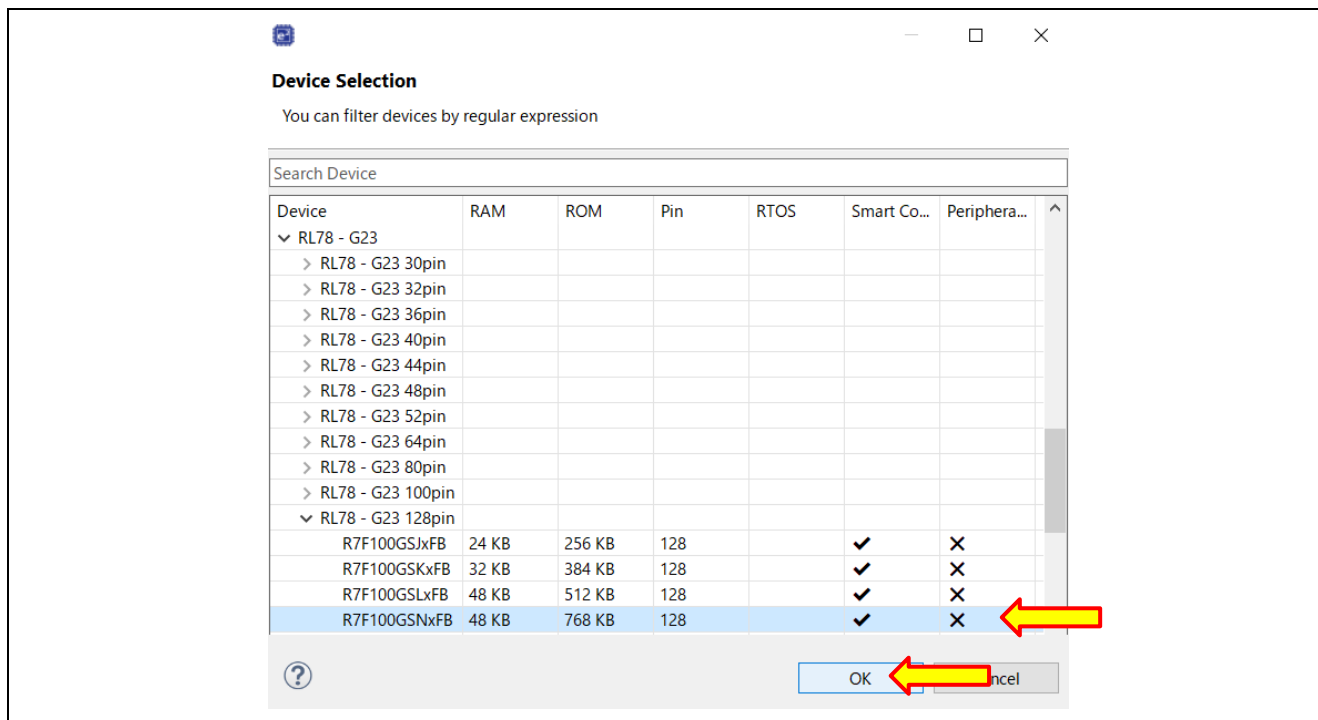

Figure 6-2 Target Device Selection
- Target Device: R7F100GSNxFB (Refer to Figure 6-2 for the device selection method.)